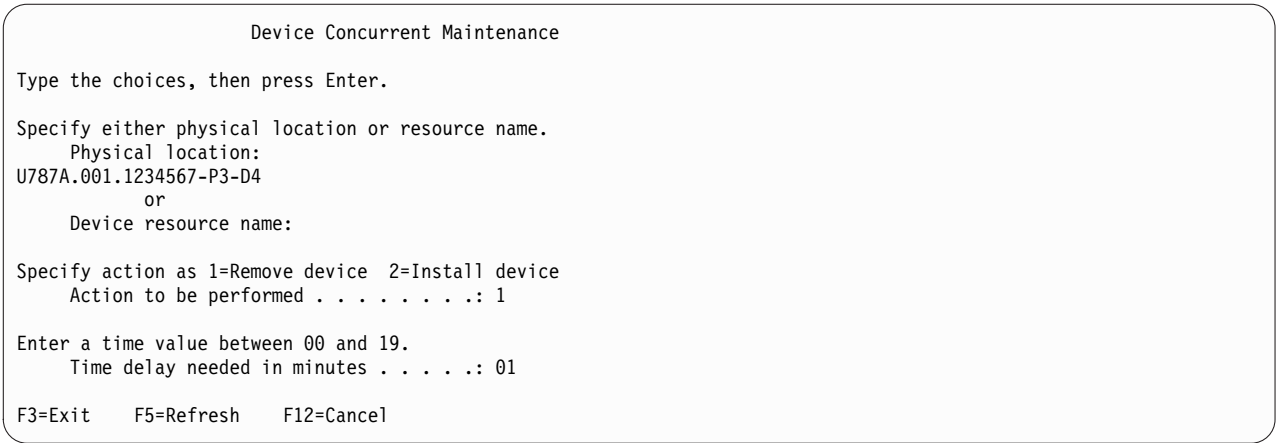

Figure 60. Example Device Concurrent Maintenance display
15. From the Hardware Service Manager, navigate to **Select Device Concurrent Maintenance** option. Press Enter. The Device Concurrent Maintenance display is shown, as shown in the Figure 60 on page 62.